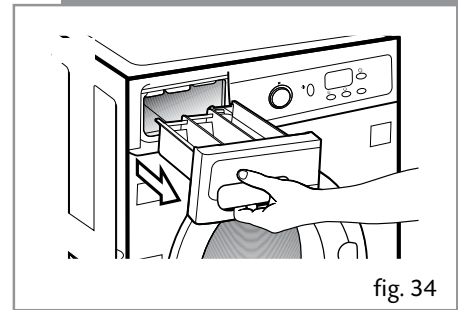

fig. 34
- Pull outwards on the detergent dispenser to remove it completely (Figure 34).